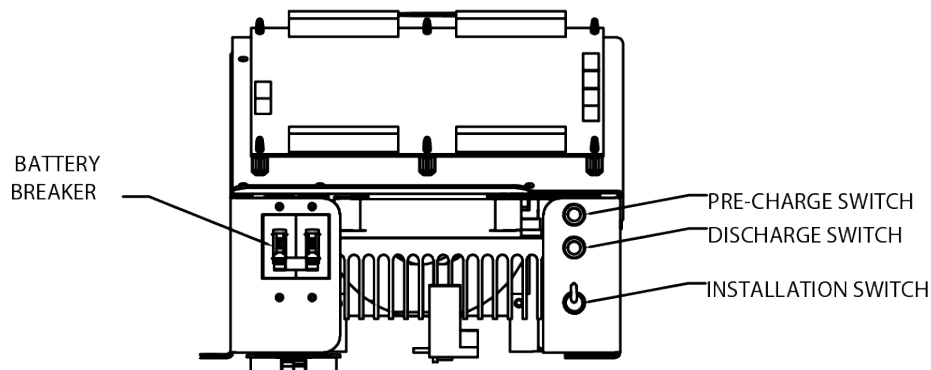

Figure 7.1 Battery Fuse, DC Pre-charge Switch & Installation Switch (1.75 kW – 5.0 kW)
2. Press and hold the DC Pre-charge switch located on the inverter chassis (see Figure 7.1, 7.2, 7.3) for 30 seconds, and then switch the main battery circuit breaker to the (ON) position. If a large flash occurs or if the circuit breaker trips, the batteries are not connected properly. Call service immediately.